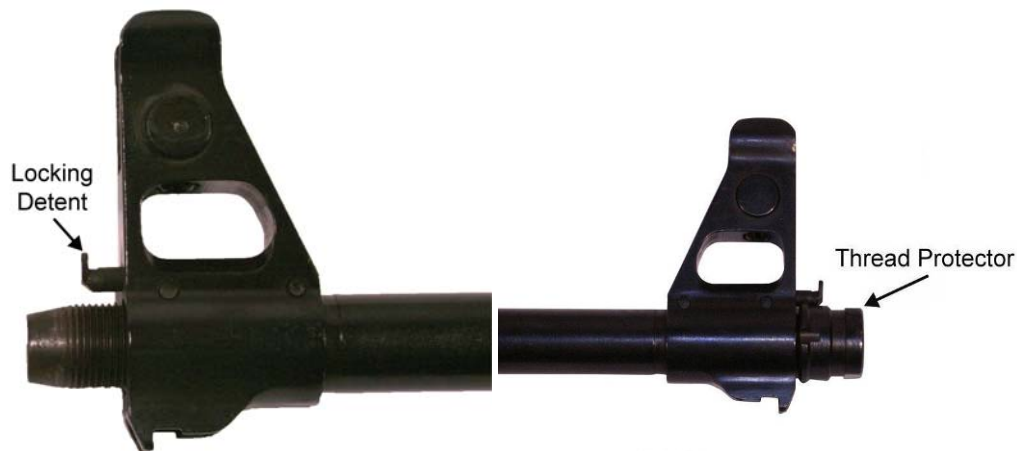

Figure 14. Thread Protector and Locking Detent.
1. While depressing the locking detent with a finger or field expedient tool, screw on the compensator or thread protector until it is seated on the muzzle. Ensure the locking detent is seated in one of the grooves in the compensator or thread protector. Refer to Figure 14.